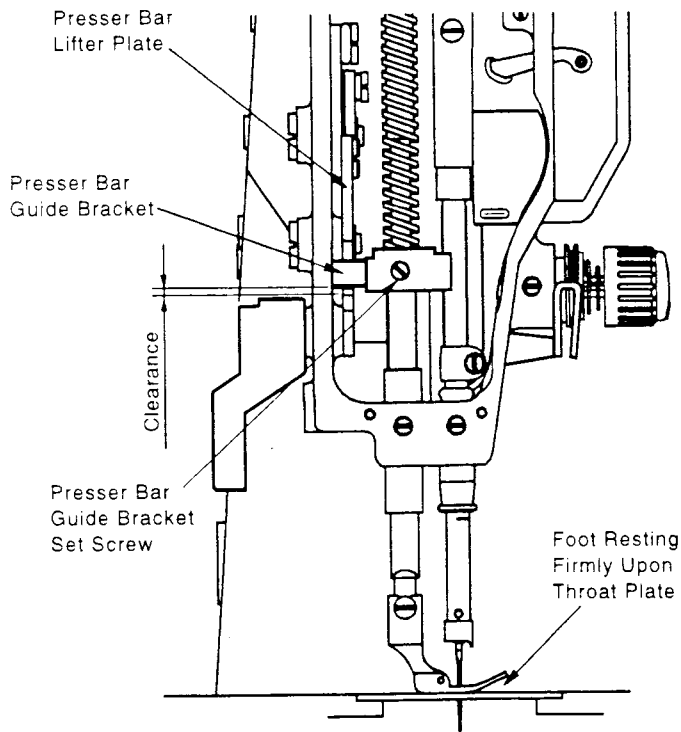

Fig.4
1. When presser foot rests firmly upon throat plate (with feed dog below throat plate) there should be some clearance between presser bar guide bracket and presser bar lifter plate, as shown in Fig. 4.